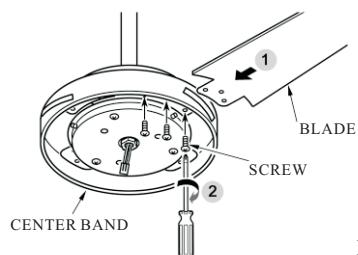

FIG.12
1. Attach each blade assembly into the center band using the blade screws. Tighten them securely (see Fig.12)